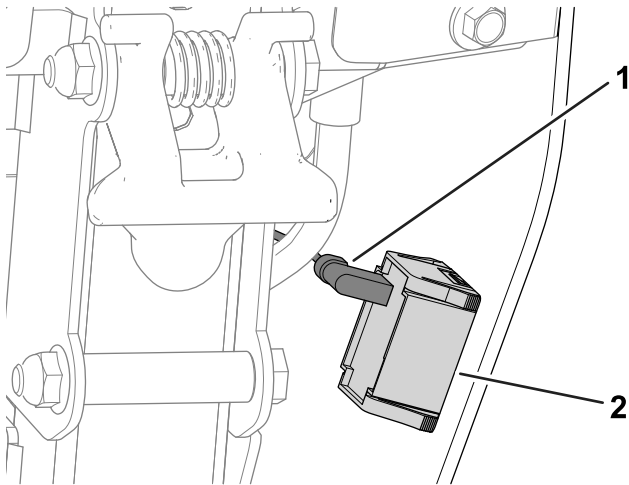

Figure 40
A. Disconnect the wire-harness connector from the hour meter (Figure 40).